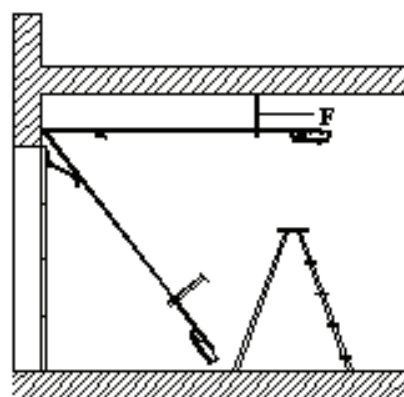
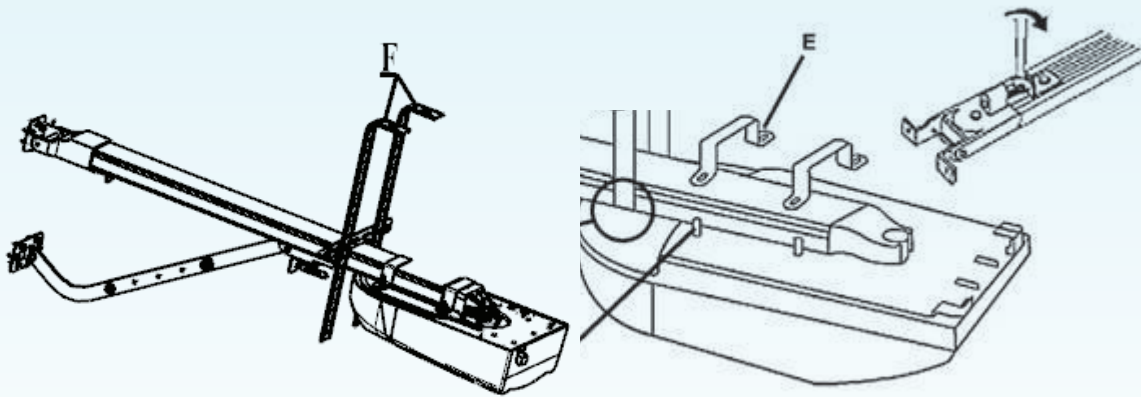
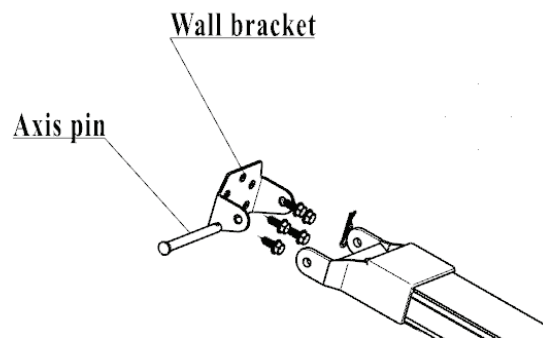

Fig.3
Fig. 4
Fig.5
Make sure the track is horizontal and vertical to the shaft. Make sure the connection of hanging bracket F and ceiling is firm enough (Fig. 3).
Before attaching the U brackets (E) (Fig. 4) screw an inverted nut (6mm) (D) on each stud then position the brackets (E) on the studs and secure them in-place using a second 6mm-nut and then lock the brackets to the rail by tightening the inverted lock nuts (D). Connect the aluminum track to the wall brack (Fig.5) on the door frame. Check measurements for drilling insert and lock the brackets F and fix the opener to the ceiling with the correct fixings (Fig. 3). Cut off any hanging brackets excess.